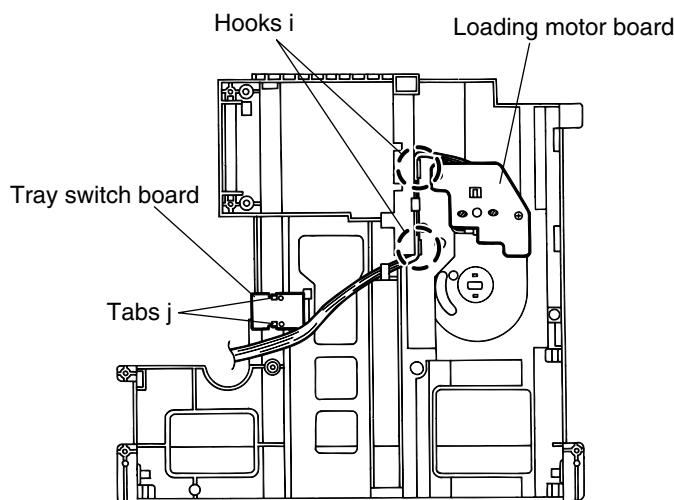

Fig.26
CAUTION: When reattaching the loading motor board, settle the wires on the two hooks **i** on the loading base assembly and draw the other end to the left as shown in Fig.26.
■Removing the tray switch board (See Fig.26)